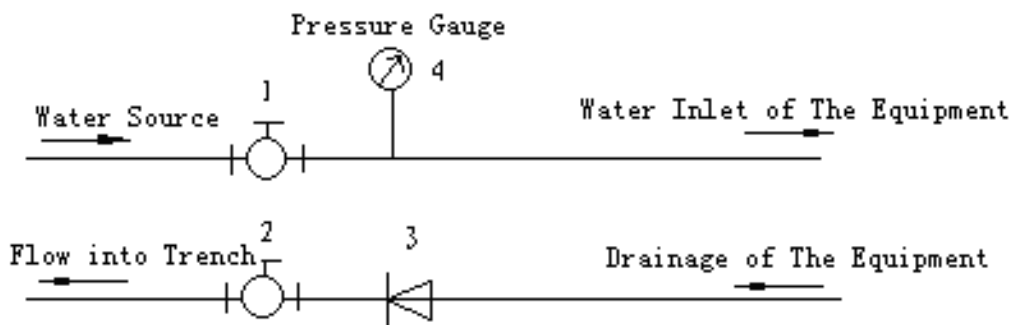

Fig.3
7.4 Connect the pipeline of drainage, water inlet and water source to the related ones of the equipment (see Fig. 3), and meanwhile configure power source according to the requirements.